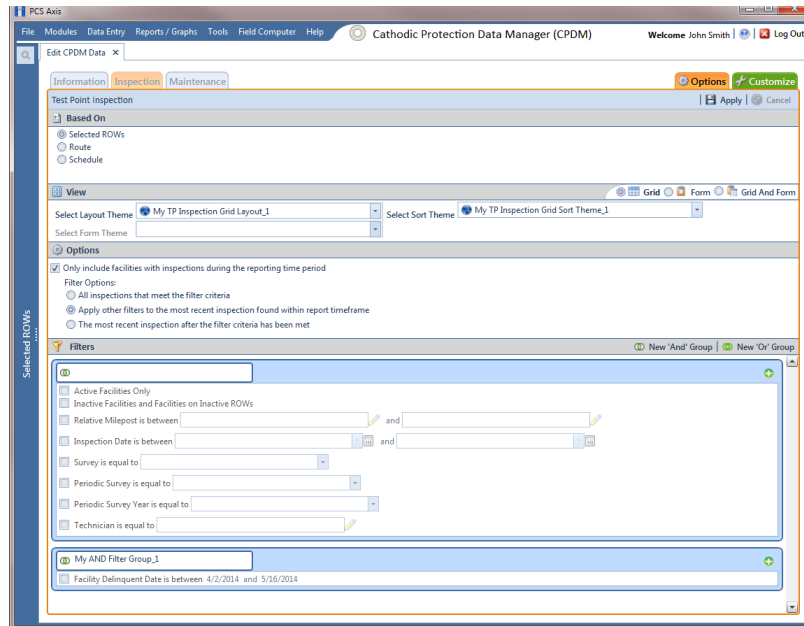

Figure 7-116. Options
- 14 To apply one or more filters to the data entry grid (Figure 7-116):